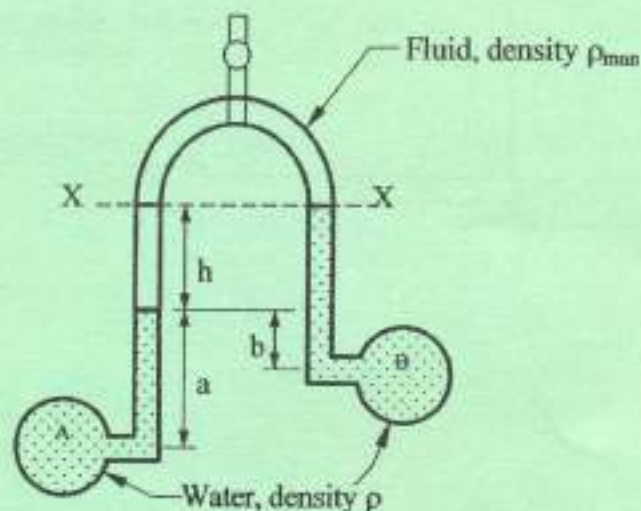

Fig 7
- (d) Figure 7 shows an inverted U-tube manometer used to measure the pressure difference between two points A and B in an inclined pipeline through which water flows. The difference of level $h = 0.35m$, $a = 0.3m$ and $b = 0.2m$. Determine the pressure difference between points A and B, if the top of the manometer is filled with: